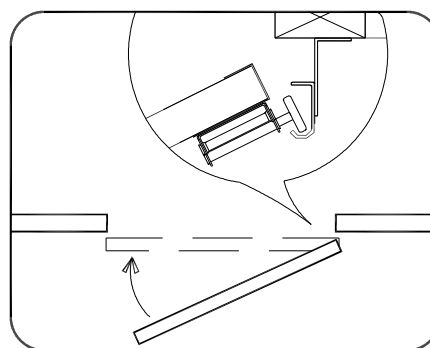

Figure 6
- Insert roller in the end hinge (right) of the second section and slide it into the track (figure 6).